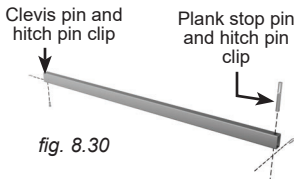
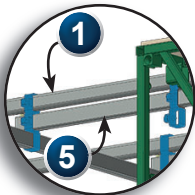

fig. 8.30
fig. 8.39
- 1- Remove the clevis pin and the plank stop pin (fig. 8.30) on one 120" (305 cm) outrigger. Insert the outrigger in the top front outrigger pocket until it is about halfway through ("1" in fig. 8.39, p. 96).